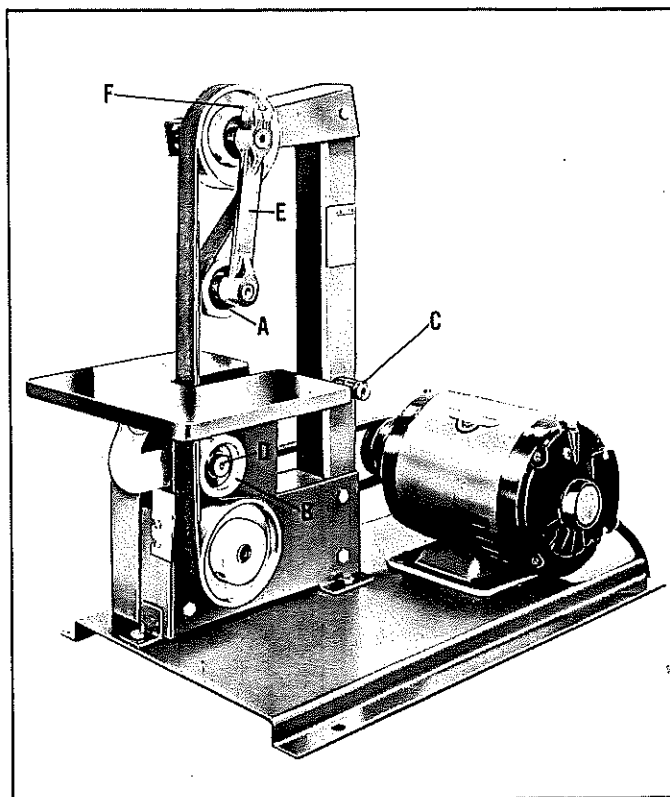

Fig. 11.
When doing inside sanding or grinding, both idler pulleys (A and B) Fig. 11 are used. Idler pulley (B) is moved from the shaft (C) and placed on shaft (D) and idler pulley (A) is moved to the front as shown in Fig. 11. CAUTION: BEFORE MOVING IDLER ARM (E) FIG. 11, LOOSEN SCREW (F). The belt is run on the outside of the two larger pulleys and to the inside of the two idler pulleys. The platen and table can be left on the machine or removed depending on the work you are doing. When doing inside sanding or grinding a 44" abrasive belt is recommended instead of the standard 42" belt, to provide more room between the table and idler pulley (A).
When heavy pressure of the work piece against the belt is required, the platen can be supported by the pulley (A), as shown in Fig. 11. This can be done whether the belt is threaded over the pulley (A) as shown, or whether other belt arrangements are used.